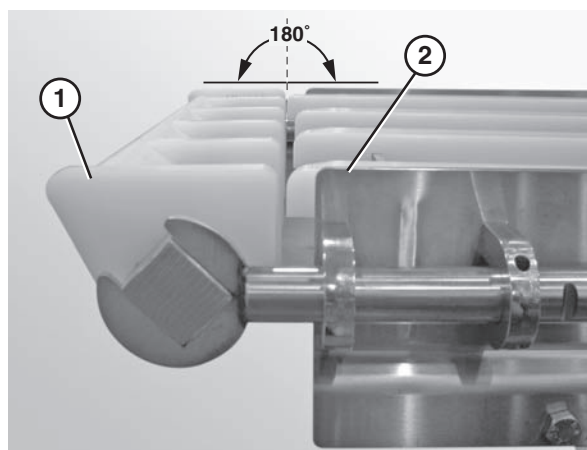

Figure 28
5. Ensure that the nose bar pucks (**Figure 28, item 1**) are in line with the conveyor frame (**Figure 28, item 2**).